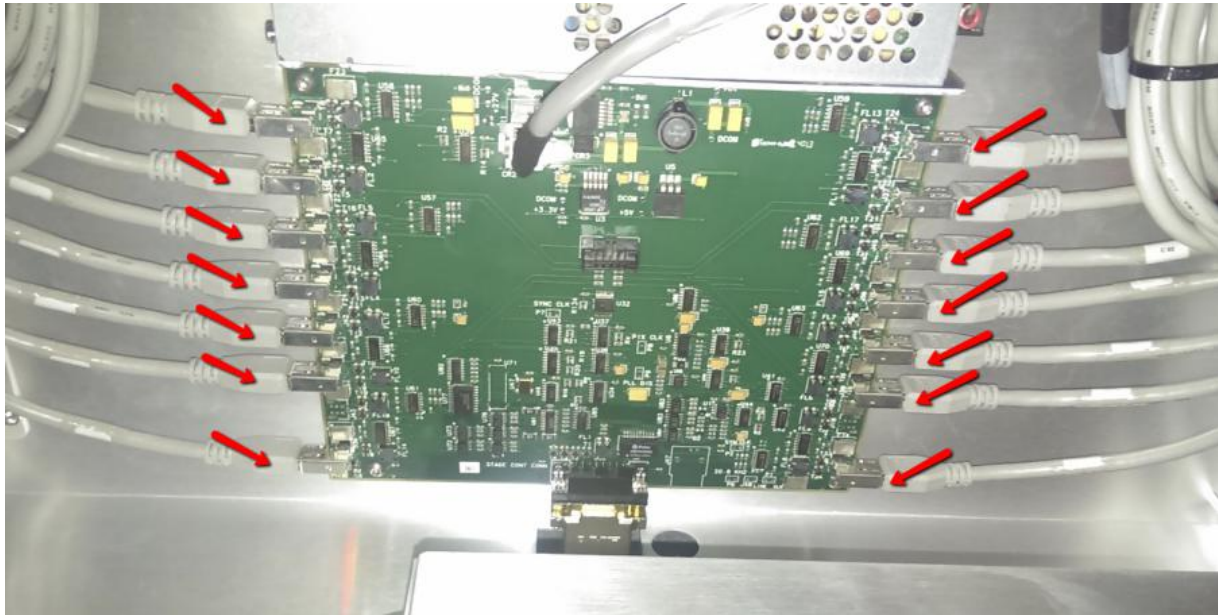

Figure 32 Fire Wire connection
16. Connect 14 x Fire Wires into Trigger Board Fire Wire Port as below Figure 32